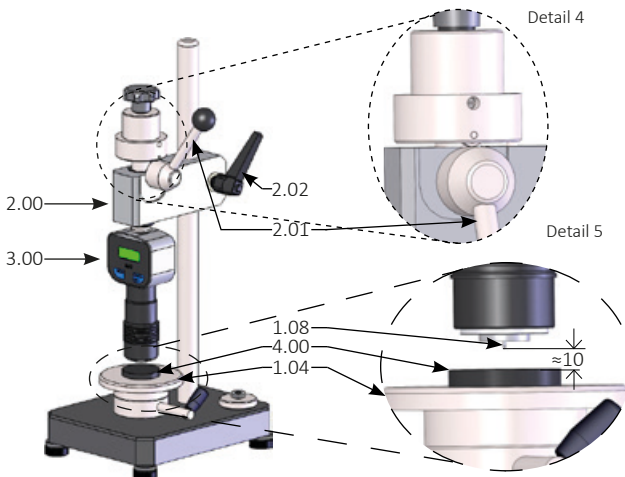

Fig. 6 Hardness test Shore A, B, O, A0, E, L/c, Asker C
- › Slowly move down the hardness tester (3.00) until the tip of its indenter is approx. 10 mm above the surface of the specimen (see Detail 4, Fig. 6).
- › Gently swing the loading lever (2.01) down until the hardness tester makes a full contact with the specimen and let go of your hand (see Detail 5, Fig. 6).